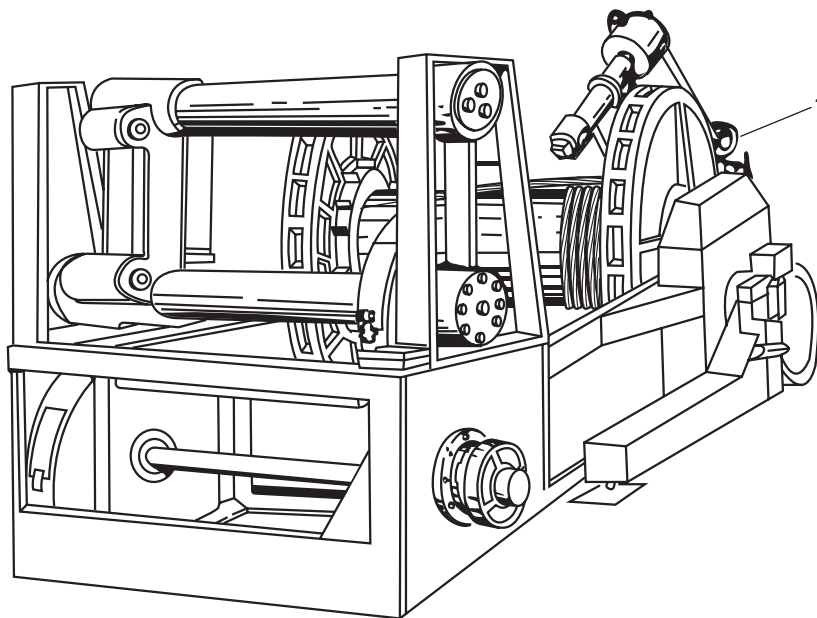

Figure 2. Towing Machine
5. Loosen the clutch brake handwheel (figure 2, item 1) slowly until the drum turns slightly and all of the load is transferred to the mechanical dog.
6. Tighten the clutch brake handwheel (figure 2, item 1).
3. One crewmember releases the clutch brake handwheel (figure 2, item 1) and immediately leaves the area.